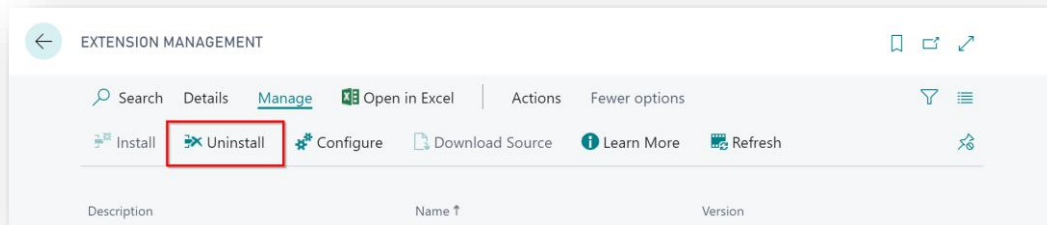

Figure 8-2
3. Select the **SD Stores Manager** App and choose the **Uninstall** action (*Figure 8-2*).